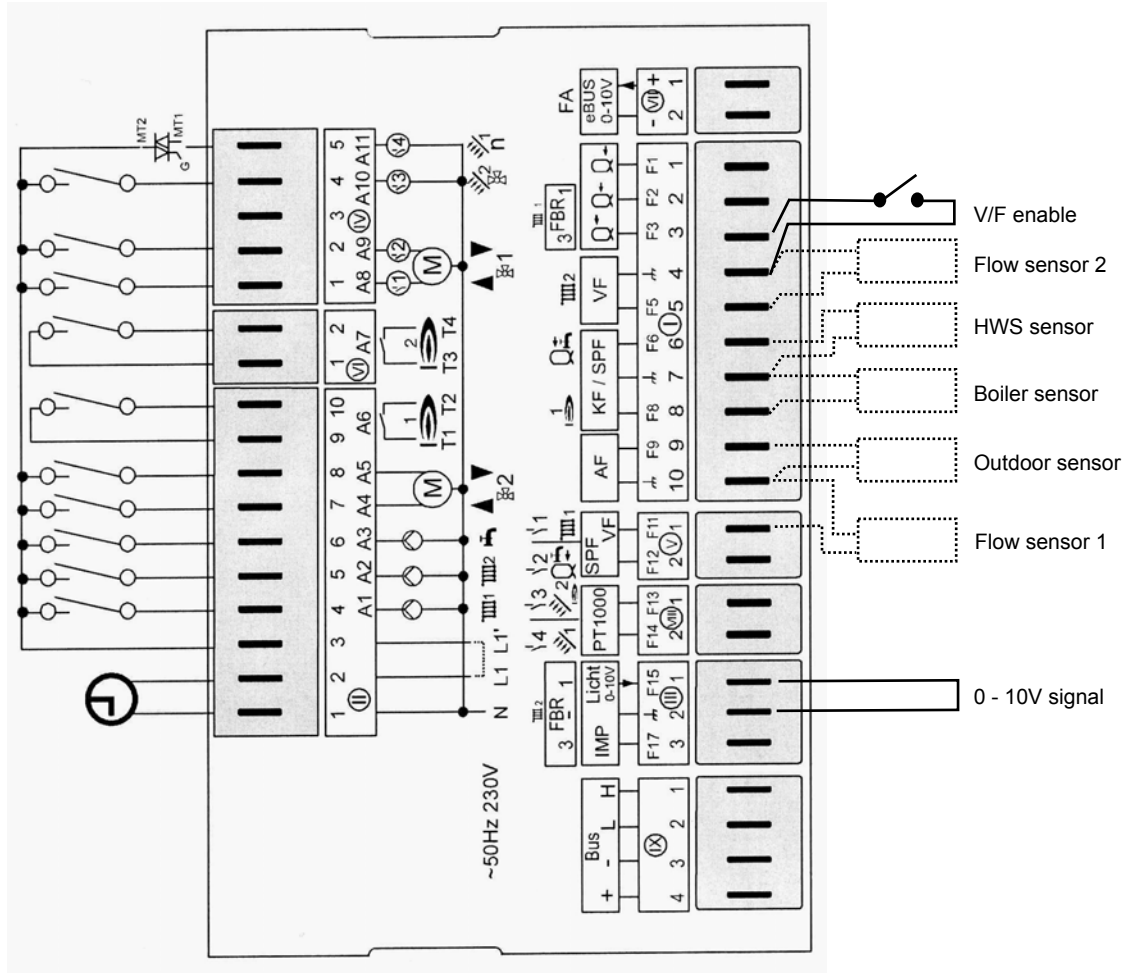

Fig 3 E8 regulator
Each Modulex boiler has an E8 Regulator, from which boiler functions and auxiliary equipment are controlled. It is divided into a 230V block for pumps, mixing valves, etc and a 24V block for sensors and internal cascade control (see Fig 3). Auxiliary equipment run from the 230V block must be connected via a relay. In addition to modular control of the boiler, the E8 can directly compensate the boiler flow temperature via an Outdoor Air Sensor.
- A BMS controller, using a variable 0 - 10V signal and connected to the two terminals shown on fig 3 page 9
- The simplest external control method is a volt-free enable switch connected to the two terminals shown on fig 3 page 9